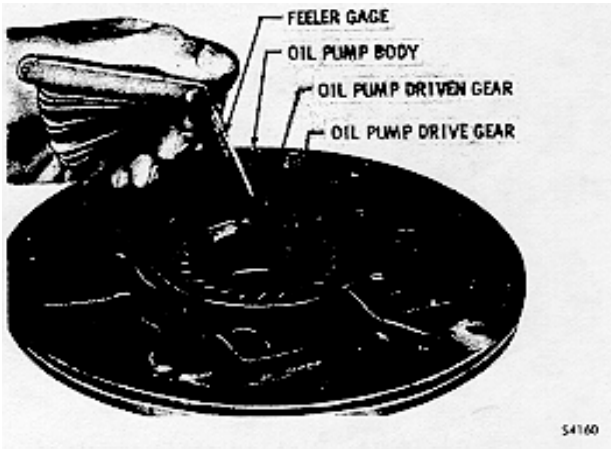

Fig. 6-36. Checking diameter clearance of oil pump driven gear
(14) Check the driven gear diametral clearance with a feeler gage as shown in figure 6-36. Replace the gear if the clearance is not within 0.0055 to 0.0085 inch (0.14-0.22 mm) on new gears or 0.0055-0.0089 inch (0.14-0.23 mm) on used gears.
(15) Grease and install sealring 4 onto pump body 8.
(16) Install front support assembly 17 onto pump body assembly 6, aligning the bolt holes.
(17) Install six 5/16-18 x 1-inch bolts 11 (eight on earlier models) with new rubber coated washers 12 into the pump side of the oil pump assembly. Tighten the bolts finger tight.
(18) Install three 5/16-18 x 1 3/4- inch self-locking bolts 28 and two 5/16-18 x 1-inch self-locking bolts 29.